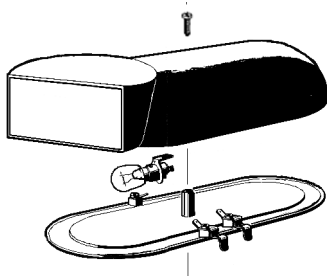

figure 18
**3 Replacement of lighted top cover bulb:** remove the fixing screw placed in the upper part of the top cover, remove the lower part and replace the bulb (using a 24-28V 21W max bulb). Reassemble the top cover and replace the fixing screw.(see figure 18)